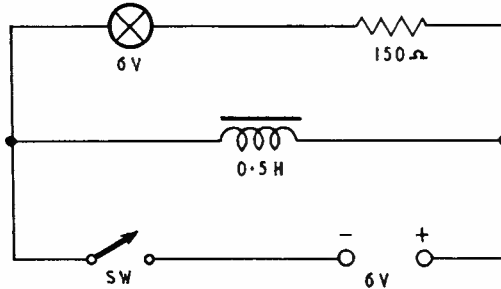

FIG. 2.
STEP 1. Connect the circuit as in Fig. 2.